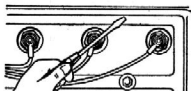

Fig. 33—Short Circuiting Plugs
- 2nd—Grasp a screwdriver by its wooden handle holding the metal end against the spark plug terminal and at the same time touch the cylinder head, thus short circuiting the plug (Fig. 33). Be careful to hold the screwdriver by the wooden handle, or a shock will result. Short circuiting a spark plug